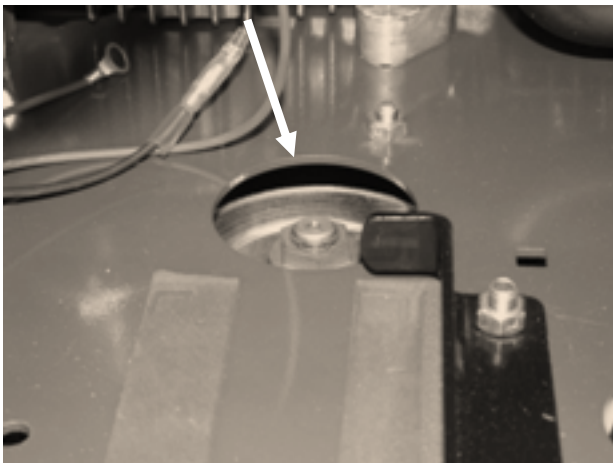

Figure 61
6. Between the battery and the engine there is a small access hole to move the belt over the transaxle pulley **Figure 61**.